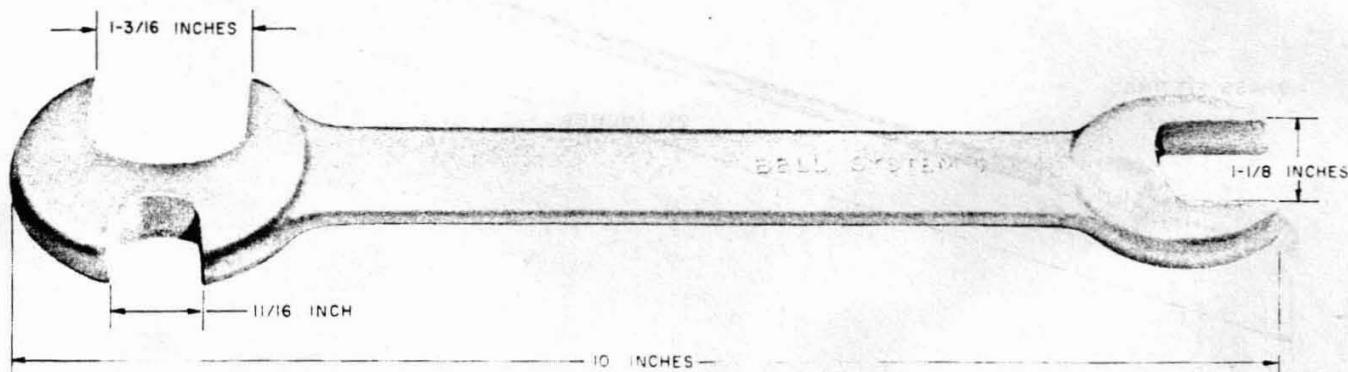

Fig. 6—C Regulator Wrench
5.14 The open-end C Regulator Wrench is 10 inches long and has openings to accommodate 11/16, 1-3/16, and 1-1/8 inch fittings as shown in Fig. 6.